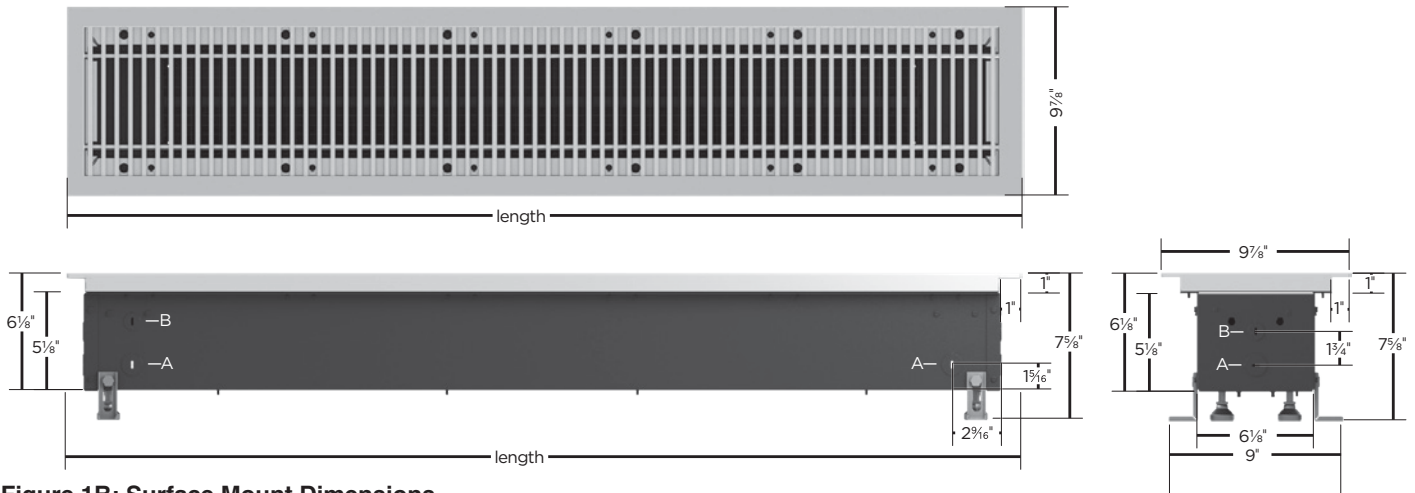

Figure 1B: Surface Mount Dimensions
6. **CAUTION** – Heater operates at high temperatures. Keep electrical cords (including telephone and computer cables), drapes, and other furnishings away from heater. For efficient and safe operation, we recommend maintaining a minimum of 12 inches (305 mm) clearance above and around the heater at all times. See Figure 1b for minimum clearance requirements.